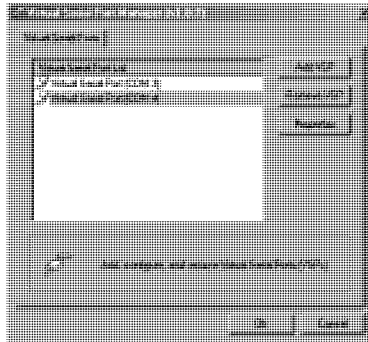

Figure 14: The Virtual Serial Port Properties Window (COM 3 and COM 4)
3. You can set a virtual port for each local port on your **VS-42HC** (see Figure 14).